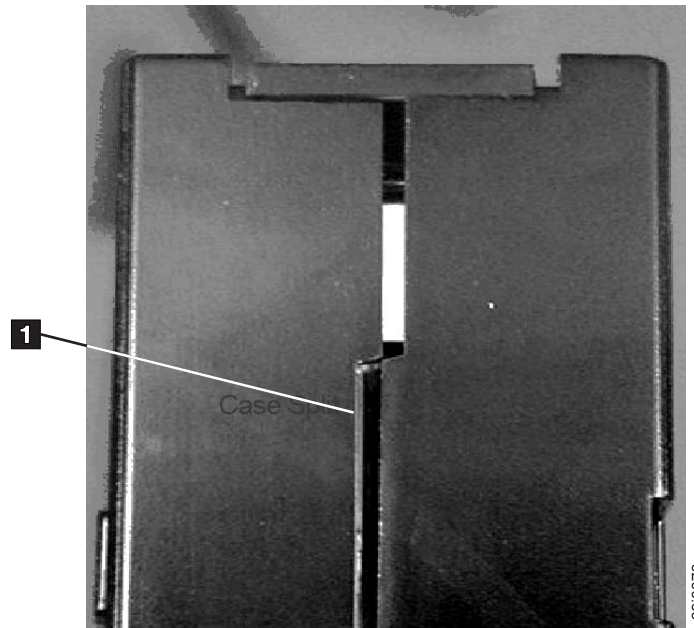
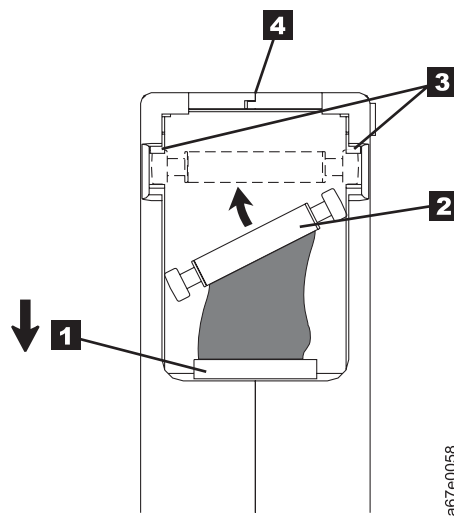

Figure 4-7. Checking for gaps in the seams of a cartridge
Figure 4-9. Placing the dislodged leader pin into the correct position. The cartridge door is open to show the leader pin.
- Inspect the rear of the cartridge (the part that loads first into the tape load compartment) and ensure that there are no gaps in the seam of the cartridge case (see **1** in Figure 4-7 and **4** in Figure 4-9 on page 4-11). If there are gaps in the seam (see Figure 4-7), the leader pin may be dislodged. Go to “Repositioning or Reattaching a Leader Pin” on page 4-10.
### Example: Split Cartridge Case (see Figure 4-7)
1. Slide open the cartridge door ( **1** in Figure 4-9) and locate the leader pin ( **2** (you may need to shake the cartridge gently to roll the pin toward the door).